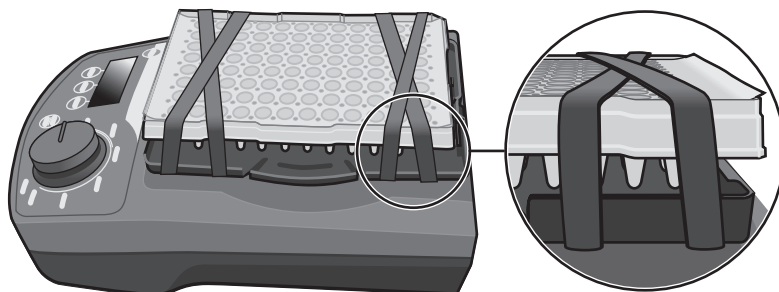

Figure 5 IKA MS 3 with a 96-well plate, showing placement of the elastic bands
- For 96-well plates, secure the front and rear of the 96-well plate with elastic bands, as shown in Figure 5.